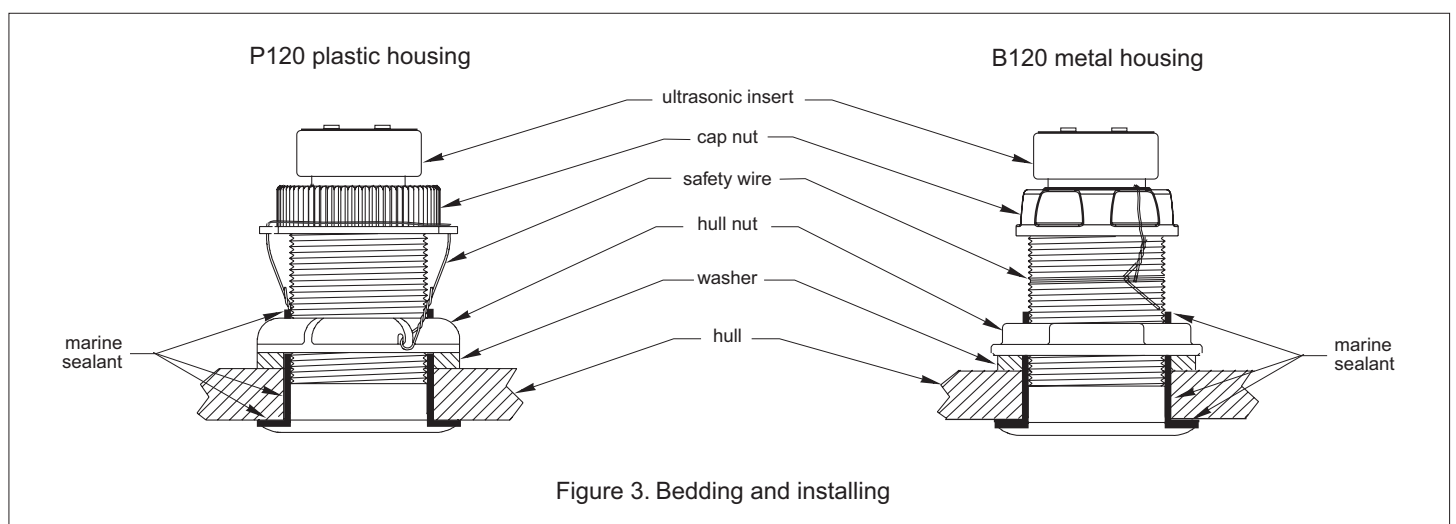

Figure 3. Bedding and installing
Apply a 2 mm (1/16") thick layer of sealant around the lip of the housing that contacts the hull and up the sidewalls of the housing. The sealant *must* extend 6 mm (1/4") higher than the combined thickness of the hull, washer(s), and hull nut (see Figure 3). This will ensure there is sealant in the threads to seal the hull and to hold the hull nut securely in place.
1. From outside the hull, push the housing into the mounting hole using a twisting motion to squeeze out excess sealant (see Figure 3). **Align the arrow on the lip of the housing pointing forward toward the bow.** If the sensor is not installed on the centerline, angle the housing slightly toward the centerline to align it with the water flow.
3. Screw the hull nut in place *being sure* the notch on the upper rim of the housing and the corresponding arrow on the lip are still positioned forward toward the bow (see Figures 3 and 5). (If your plastic housing has wrenching flats, do not clamp tightly, possibly causing the housing to fracture.)
6. Slide the ultrasonic insert into the housing with the arrow on the top pointing forward toward the bow. Seat it into place with a pushing twisting motion until the key fits into the notch. The arrow on the tip of the insert, the notch in the housing, and the arrow on the lip will be aligned. *Be careful* not to rotate the housing and disturb the sealant. Screw the cap nut in place and **hand-tighten** only. *Do not* over-tighten (see Figure 3).
3. Remove the ultrasonic insert from the housing by removing the safety wire from the cap nut (see Figure 3).
5. Slide the blanking plug into the housing with the arrow pointing forward toward the bow (see Figure 5). Seat it into place with a twisting motion until the key fits into the notch. Screw the cap nut in place and **hand-tighten** only. Do not over-tighten. Reattach the safety wire (see Figure 3).
2. Remove the ultrasonic insert from the housing (see Figure 3).
5. Slide the blanking plug (or ultrasonic insert) into the housing with the arrow on the top pointing forward toward the bow. Seat the plug into place with a twisting motion until the key fits into the notch. Screw the cap nut in place and **hand-tighten** only. Do not over-tighten. Reattach the safety wire (see Figure 3).
8. Slide the ultrasonic insert into the housing with the arrow on the top pointing forward toward the bow. Screw the cap nut until there is resistance. Seat the ultrasonic insert into place by rotating it until the key clicks into the notch. Continue to screw the cap nut into place **hand-tightening** only. Do not over-tighten. Re-attach the safety wire (see Figure 3).